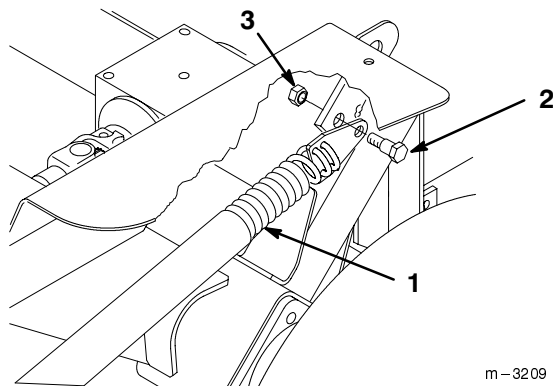

Figure 34
7. Install shoulder bolts (3/8 in. x 7/8 in.) shoulder bolts and locknuts (3/8 in.) securing spring end plate assemblies to traction unit (Fig. 34).